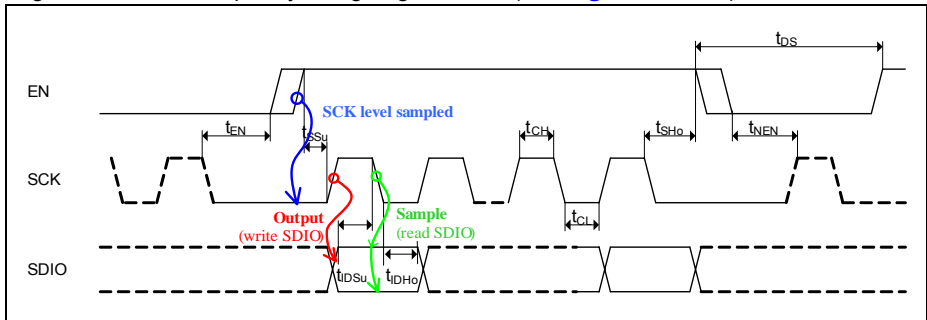
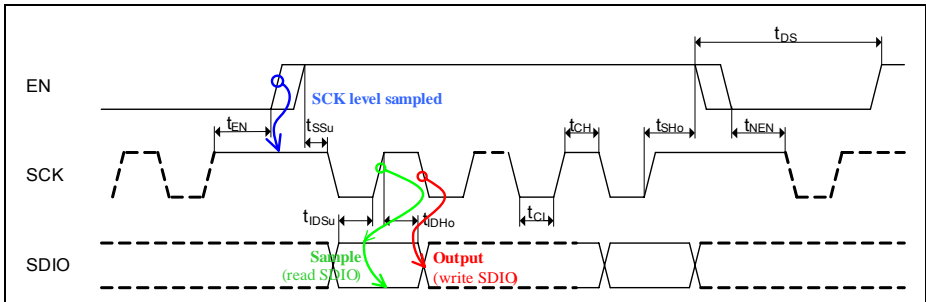

Figure 6 SPI Timing — SCK low at rising edge of EN
Figure 7 SPI Timing — SCK high at rising edge of EN
- **EN - enable input** with embedded pull-down resistor. High level on EN input enables the SPI transmission. The rising edge of the EN signal triggers the selection of the active SCK edge (for the consequent data transfer, until the EN line goes again in low state) and transmission/ sampling of data between the device and the microcontroller can start. For details refer to Figure 6 and Figure 7.
- SCK** - **clock input** pin with embedded pull-down resistor. If SCK is at low level while EN goes high, the incoming SDIO data is sampled by falling edge of the SCK and the output SDIO data is set by the rising edge of SCK. Contrariwise, If SCK is at high level when EN goes high, the SDIO data is sampled with the rising edge of the SCK clock and output on SDIO by falling edge of the SCK clock. For details refer to Figure 6 and Figure 7.
If SCK is low at that moment, the incoming SDIO data will be sampled with the falling edge of SCK, and output by rising edge of SCK (see Figure 6 below)..
If SCK is high during occurrence of rising edge on EN, incoming SDIO data is sampled with the rising edge on SCK, and output by falling edge of SCK, as illustrated in Figure 7.